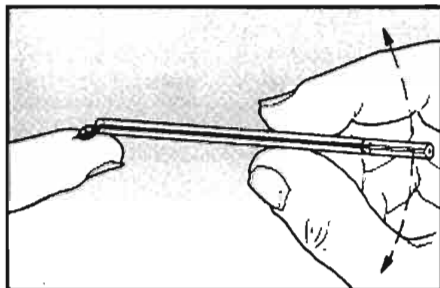

Figure 6. Filling PRE-CAL Tube from Finger Puncture. Rate Can be Controlled by Tilting.
- d. **FILL THE TUBE EXACTLY TO THE CALIBRATION MARK.** The rate of filling may be accelerated by tilting the end near the calibration mark below horizontal. The rate may be retarded, stopped or reversed by tilting the same end above the horizontal (Figure 6).